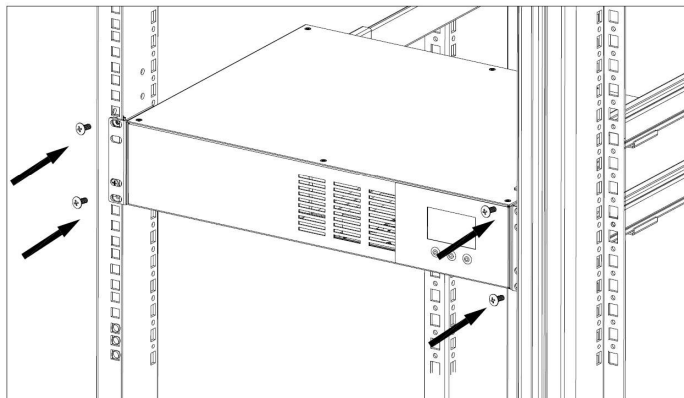

Figure 4
1. Mount the UPS into the rack and secure with the four retaining screws provided. Use two or more people when installing the UPS, the UPS is extremely heavy. Do not move the rack after the units have been installed. The rack may become unstable due to the weight distribution. **(FIG. 4)**